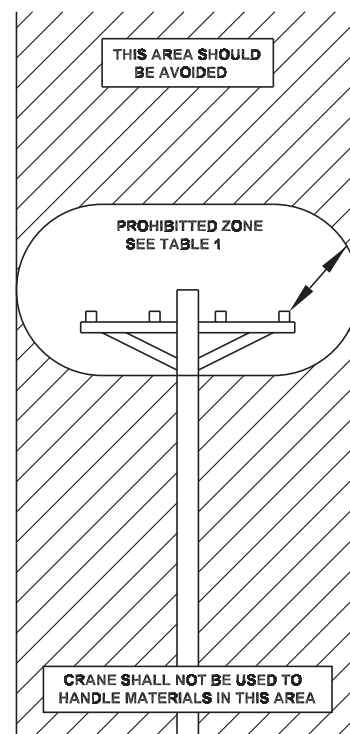

Figure 1
3. No one other than the personnel specified in (2) above shall enter the crane's operating area, with the exception of persons such as supervisors, and those specific persons authorized by supervisors whose duties require them to do so, and then only in the performance of their duties and with the knowledge of the operator or other appointed persons.
13. When operated near electric power lines, no part of the crane or load enters into danger zone shown in Figure 1.